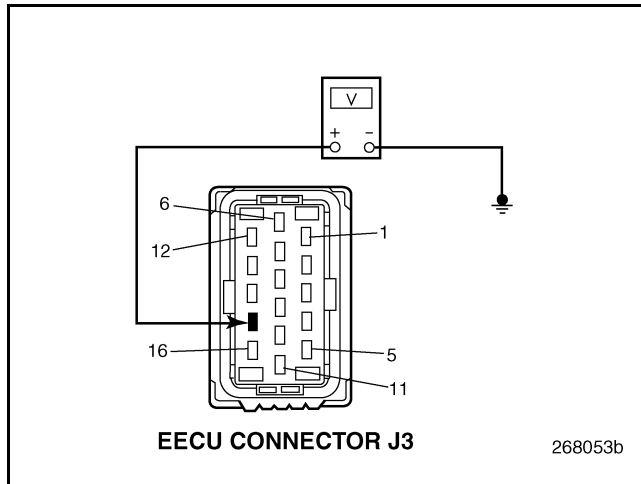

Figure 760
5. Measure the voltage between the EECU connector J3 pin 15 and a good ground (see Figure 760).